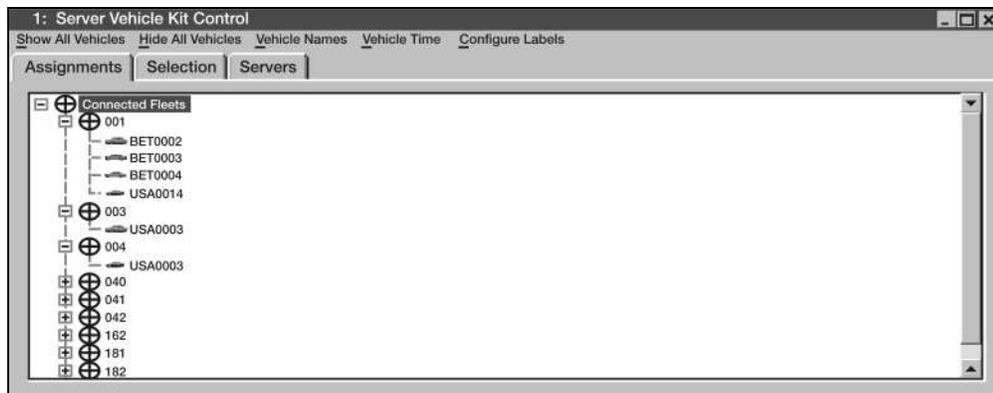
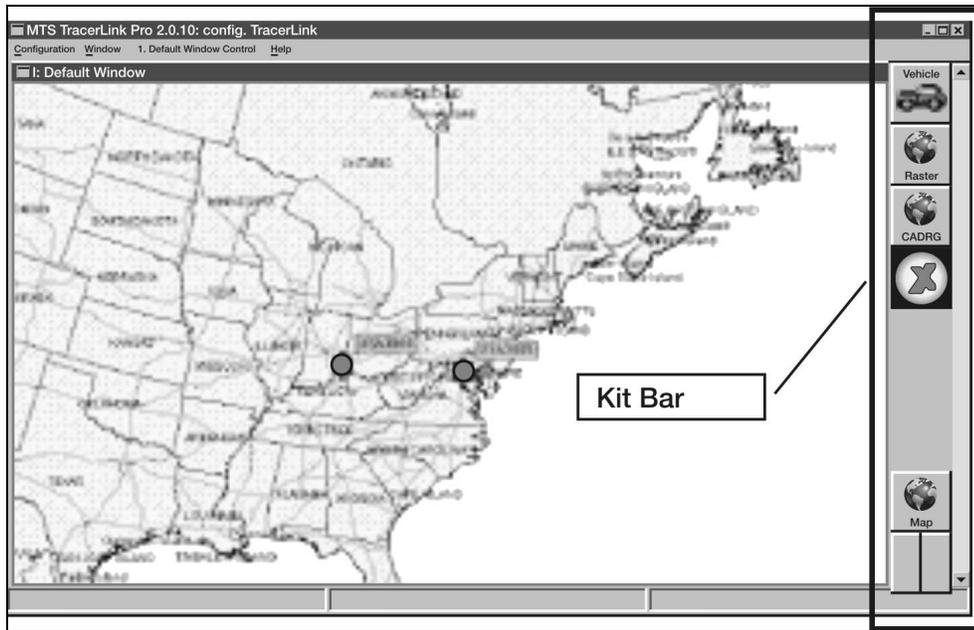
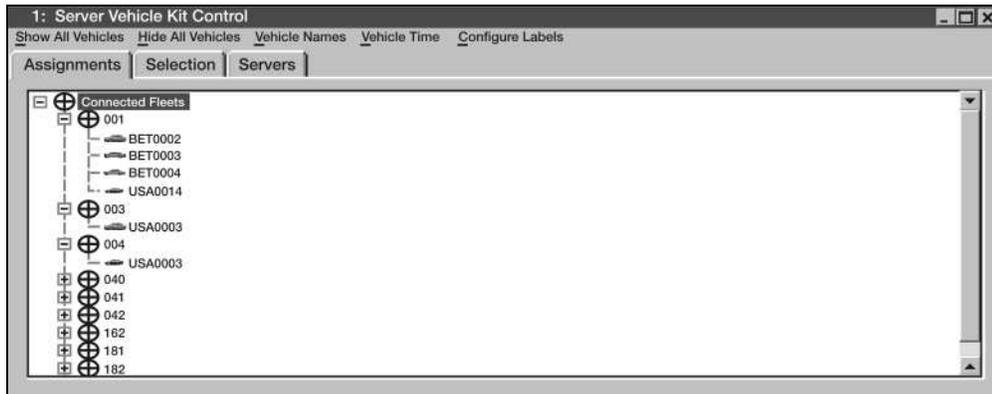

Figure 3-111. Server Kit Control Window
Figure 3-112. Kit Bar
Figure 3-113. The Assignments Tab
- c. Navigate through the Server Kit Control Window (see Figure 3-111). Use the Server Kit Control Window to trace a vehicle's route, hide a vehicle or display a vehicle that was previously hidden, or hide/display a vehicle's name and last position report time.
- (1) Display the Server Kit Control Window.
- (b) Method 2. Slowly slide the cursor off the screen to the right side of the map. When you approach the edge of the map the Kit Bar will appear. Select the vehicle image at the top (see Figure 3-112).
- (2) Display the information in the Server Kit Control Window.
- (a) The Assignments Tab. Click on the Assignment Tab (see Figure 3-113) to display vehicle information in a hierarchical fleet view.